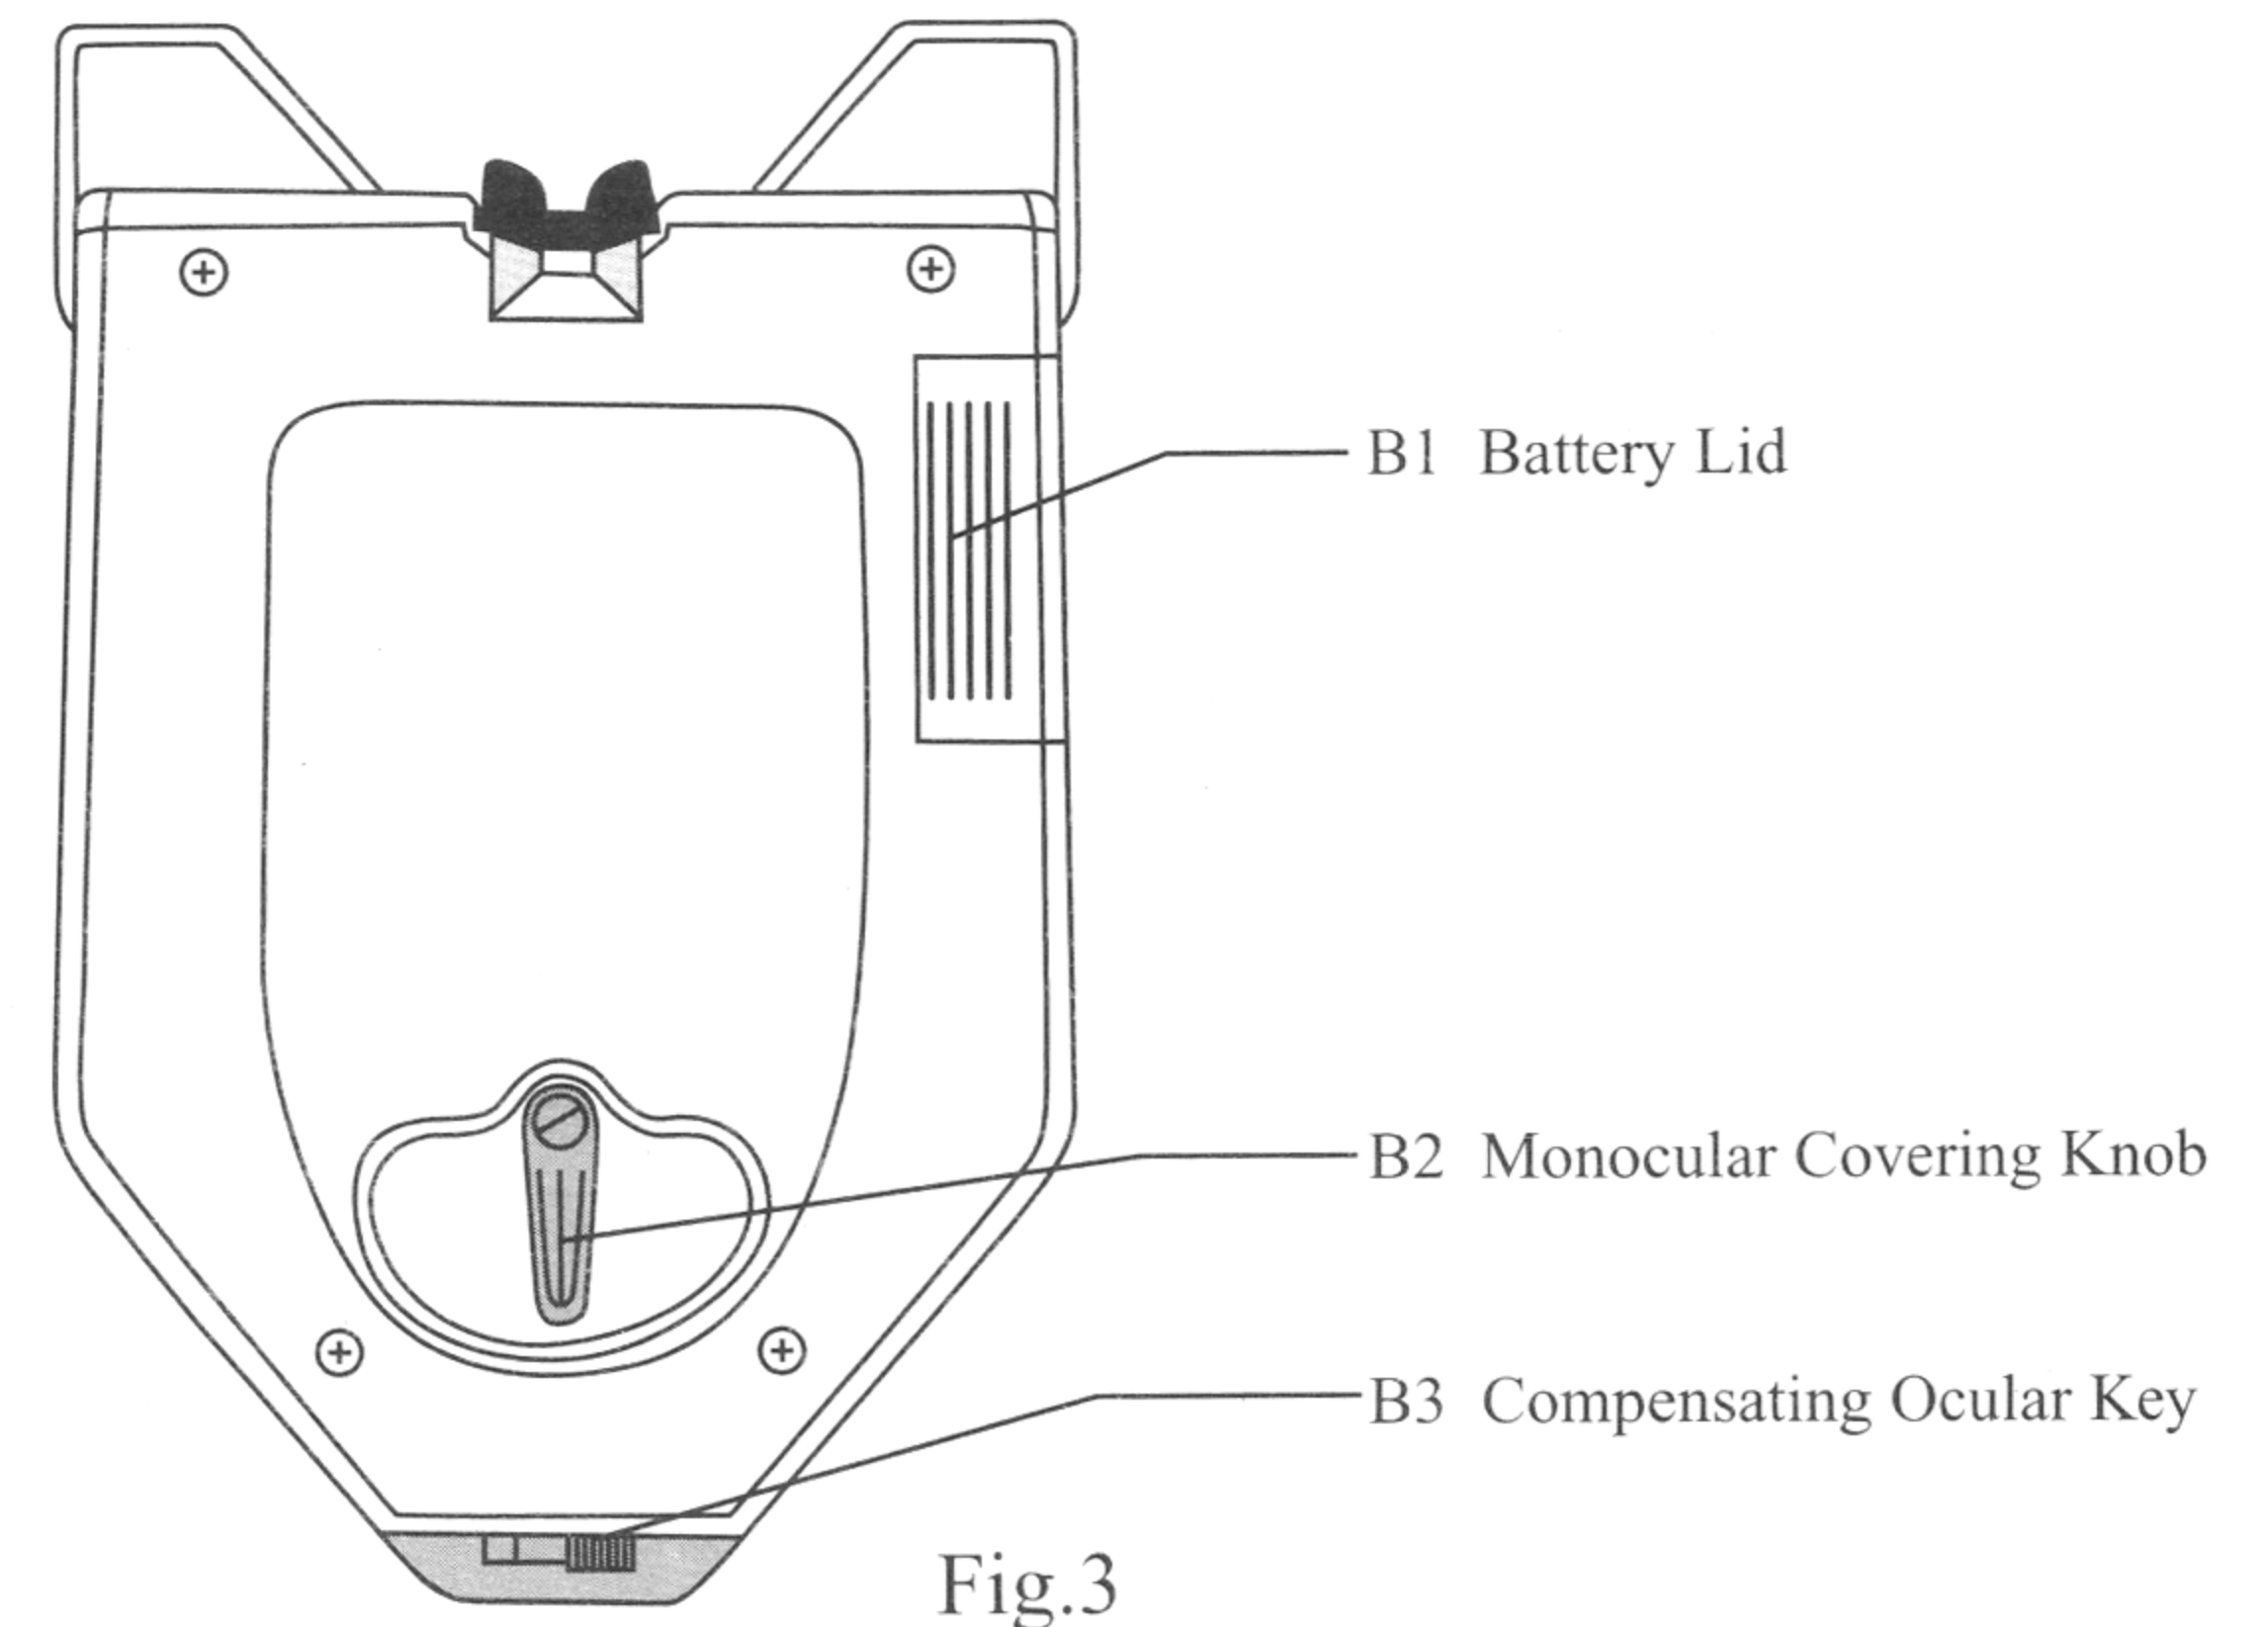
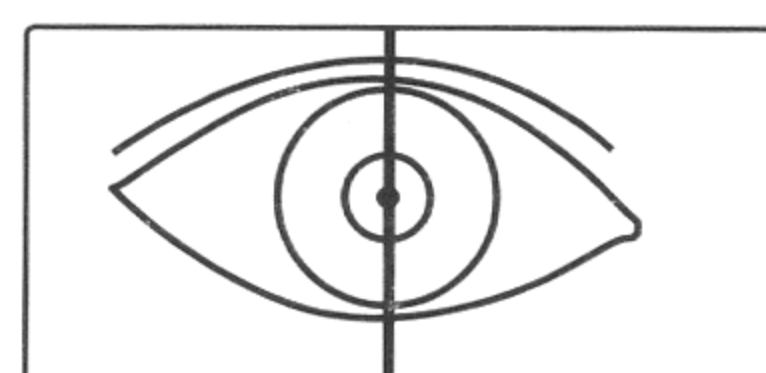
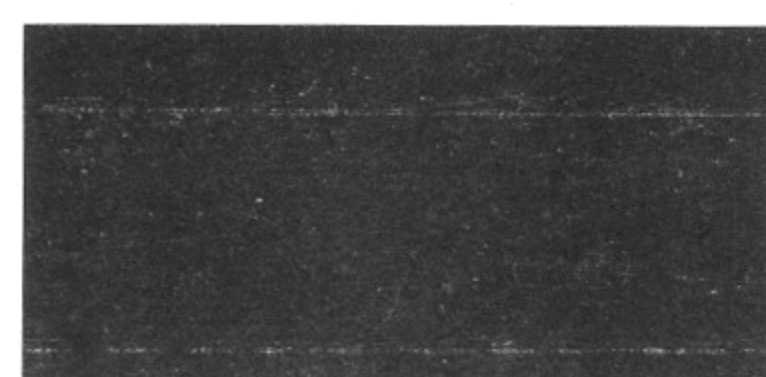

Fig.3
Fig.9a (Measuring right pupillary distance)
Fig.9b (Measuring left pupillary distance)
3.2 Description of Rear Pane (as shown in Fig.3)
4.4.1 When needing to measure the left or right pupillary distance, please turn the Monocular Covering Knob (as shown in Fig.3 NO.2) which can cover the other eye completely (as shown in Fig.9a and Fig.9b).